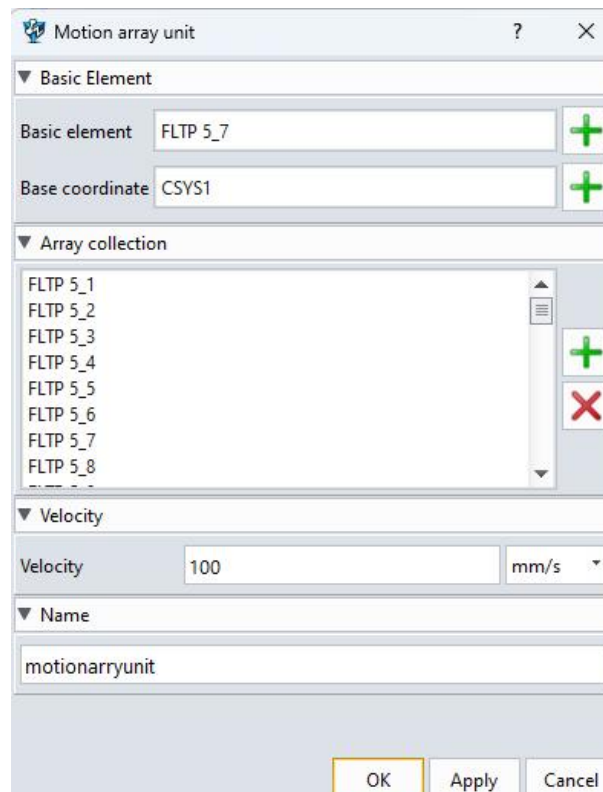

Figure 7-12: motion array Unit
- Review and refine the details of each array element as necessary. (Figure 7-12)